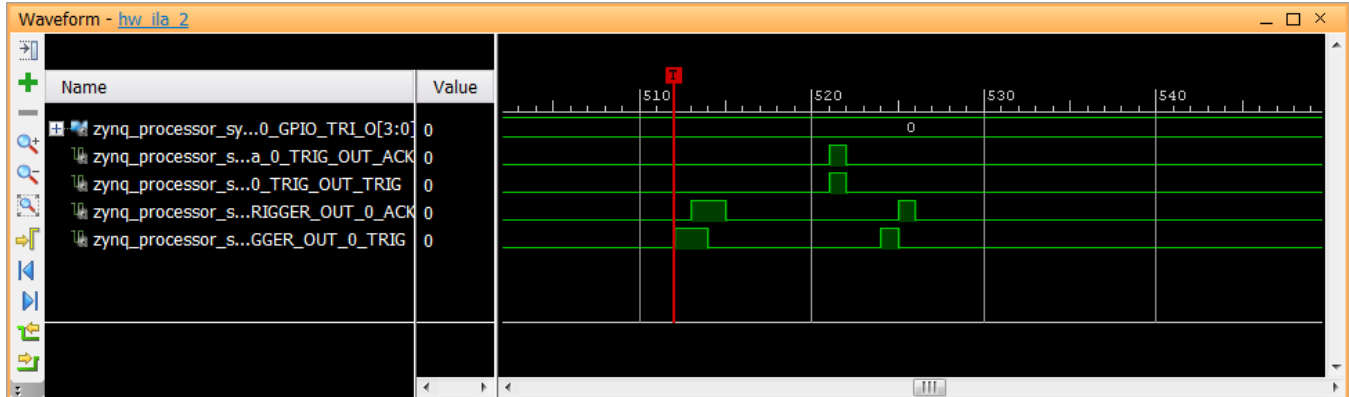

Figure 94: PS to PL Cross Trigger Waveform
9. Vivado displays the hw\_ila\_2 trigger as shown in Figure 94.